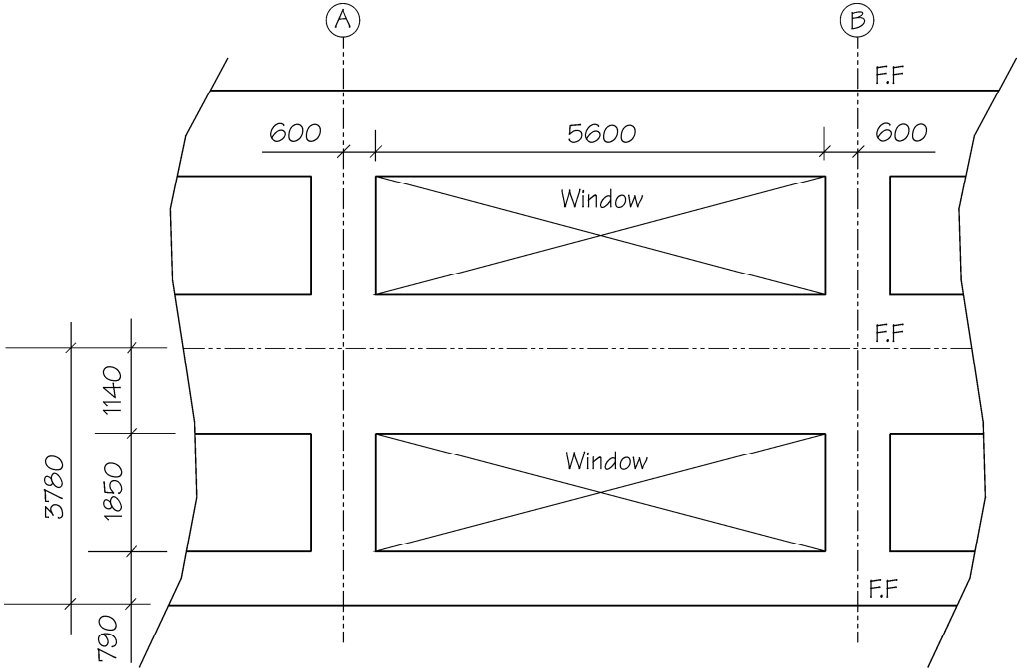

FIGURE 3-2
3. On page 3-3 top, add Figure 3-2 (see below)